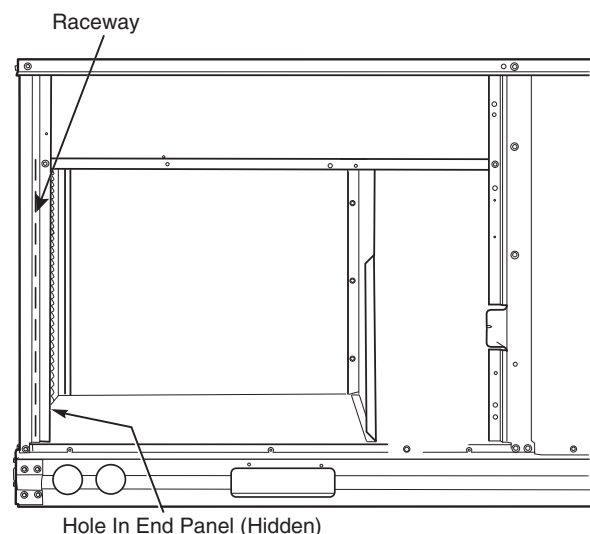

Fig. 39 — Field Control Wiring Raceway
Pass the thermostat control wires through the hole provided in the corner post; then feed the wires through the raceway built into the corner post to the control box. Pull the wires over to the terminal strip on the upper-left corner of the Unit Control Board. See Fig. 39.
2. Feed wires through the raceway built into the corner post (see Fig. 39) to the 24-v barrier located on the left side of the control box. The raceway provides the UL-required clearance between high-voltage and low-voltage wiring.